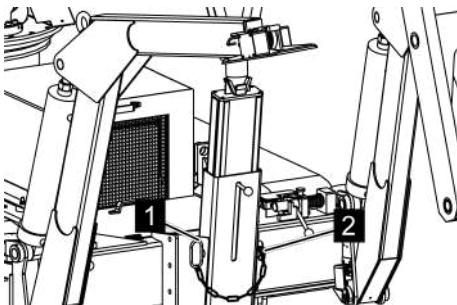

Fig. 101: Fastening bolts
5. ➤ Push the fastening bolts (Fig. 101/1) in and secure with the the spring cotter pin (Fig. 101/2).